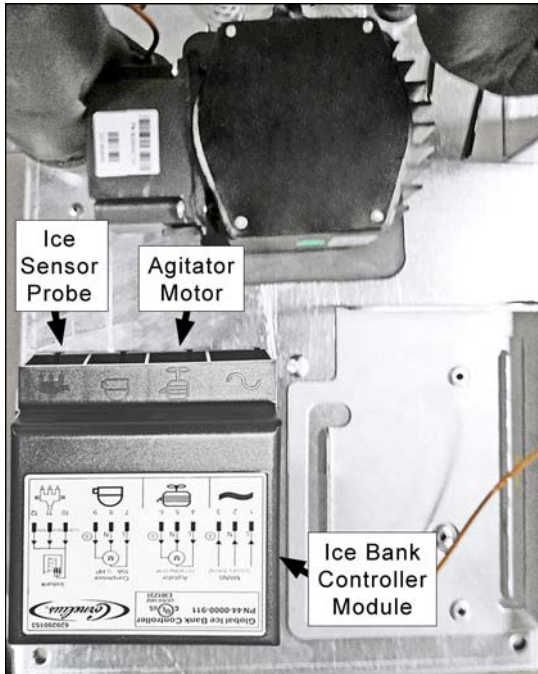

Figure 6-14 - Agitator Wiring Socket on Controller Module
- 4) Unplug the agitator-motor wiring plug from the ice bank controller module socket (Fig. 6-14).